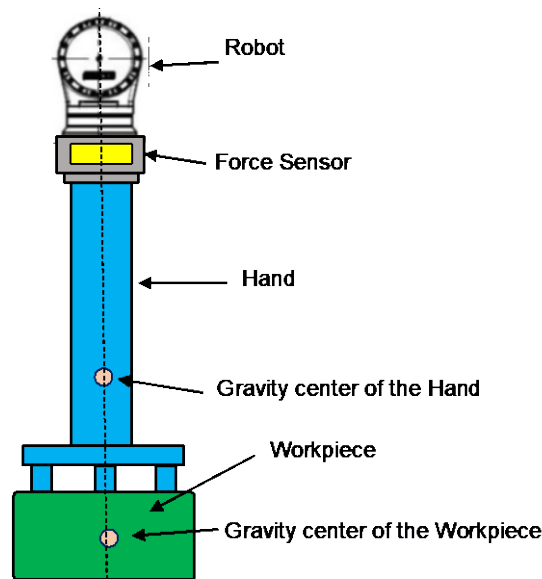

Fig. 3.2.1 (b) Mass Measurement
- The center of gravity of the hand should be on or close to the center axis of the force sensor. (Fig. 3.2.1 (b))
- Prepare sample workpieces for mass measurement in step 3.2.2 “Getting the Calibration Data for Workpiece Mass Measurement” and its center of gravity should be on or close to the center axis of the force sensor. (Fig. 3.2.1 (b))